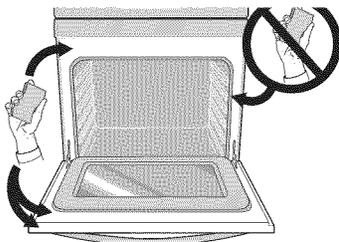

Figure 20: Clean around the oven door gasket
- Do not use oven cleaners or protective coatings in or around any part of the oven interior. Do not clean the oven door gasket. Take care not to rub, damage, or remove the gasket or use any cleaning substances on the oven door gasket (See Figure 20). Doing so could cause damage and reduce the efficiency of the oven's performance.
- Clean any soil from the oven frame, door liner outside the oven door gasket, and the small area at the front center of the oven bottom with soap and water (See Figure 20). These areas heat sufficiently to burn soil on.